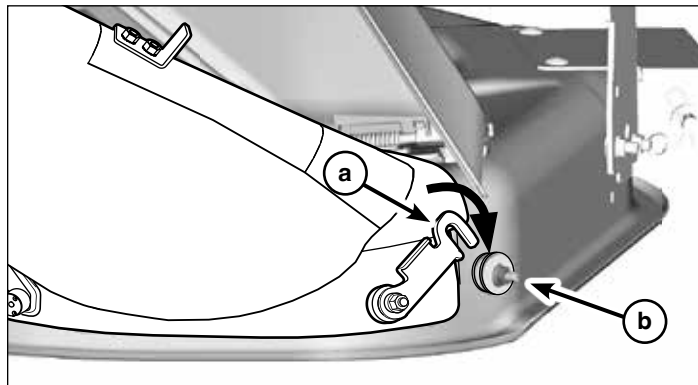

Figure 16
1. Rotate the latch (a Figure 16) into the space between the spacer and the washer hardware (b).